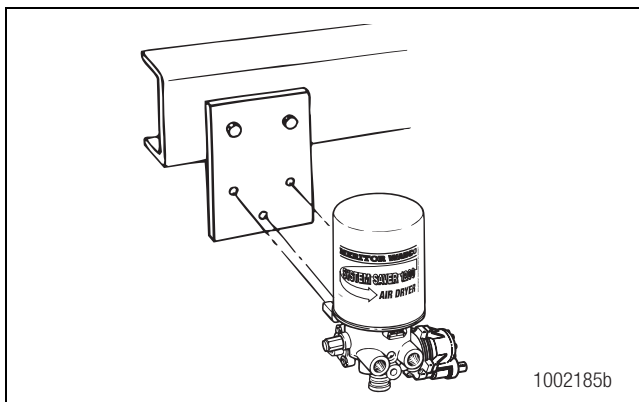

Figure 3.25
4. Attach the new unit to the frame or mounting bracket with new mounting capscrews and washers. Tighten the capscrews to 22-30 ft-lb (30-40 N•m). Figure 3.25. ①